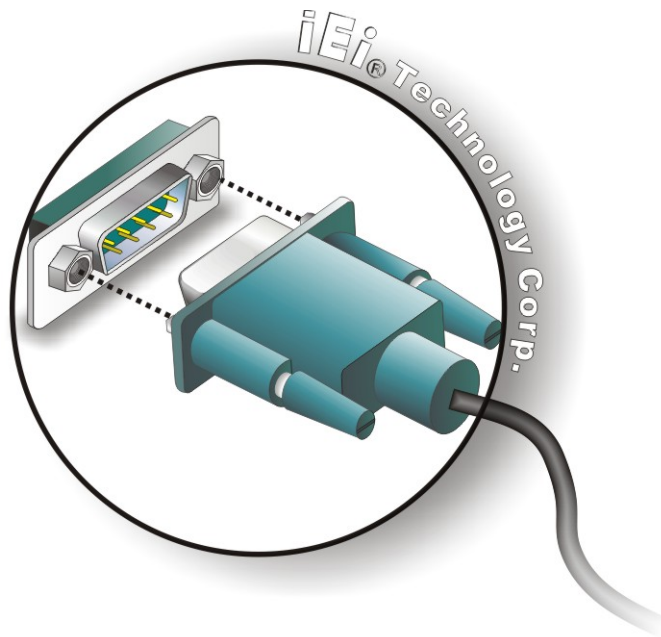

Figure 5-16: Serial Device Connector
Step 2: Insert the serial connector. Insert the DB-9 connector of a serial device into the DB-9 connector on the external peripheral interface. See Figure 5-16.